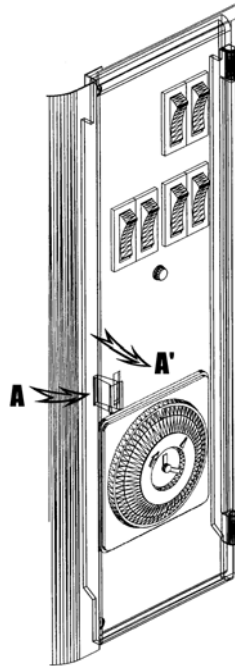

Figure 10
3. To access to switches and timer, open the switch panel cover by pushing on the side (arrow **A**) and pulling (arrow **A'**) (Fig. 10).